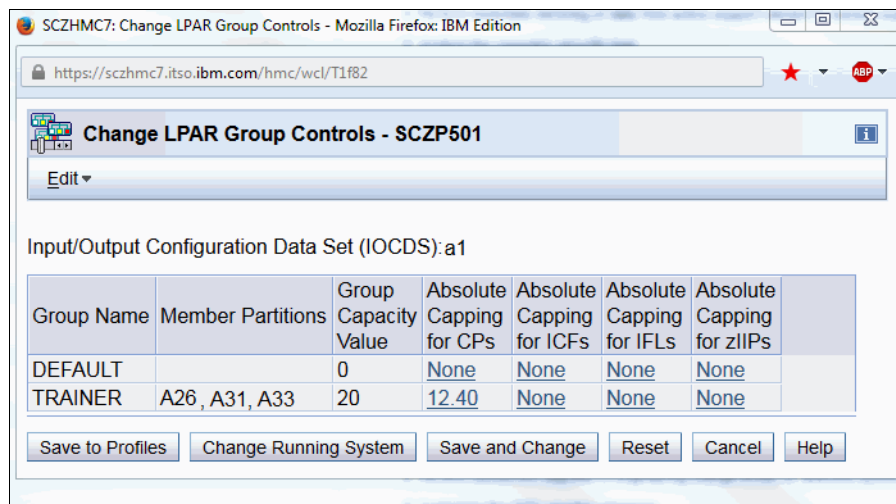

Figure 11-16 Change LPAR Group Controls: Group absolute capping
- ▶ Use Change LPAR Group Controls (as with windows that are used for software group-defined capacity), as shown in Figure 11-16 (snapshot on a z13 server).